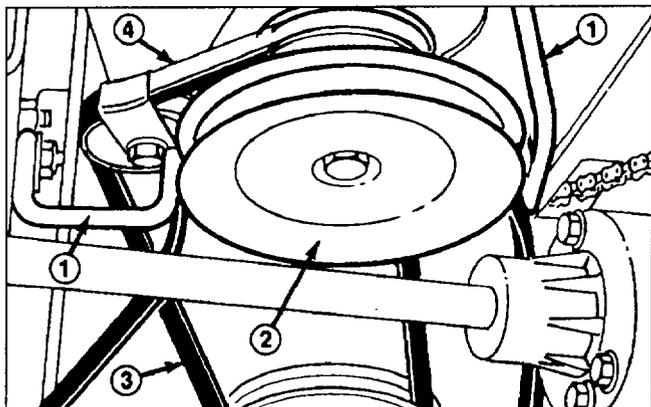

Figure 24
2. Set height-of-cut control to lowest setting and loosen belt guides near engine pulley. Remove belt from engine pulley (Fig. 24).
3. Remove cotter pin from Adjustment Rod and pull from Pivot Tube Arm (Fig. 24).
4. Remove cotterpins from clevis pins on front hanger brackets. Hold front of cutting unit in place with one hand, to prevent falling, and remove clevis pins to lower cutting unit to ground. Pull rear hanger brackets off pins on rear suspension arms. Set height-of-cut control to highest position and slide cutting unit from under Rider (Fig. 24).
4. Replace belt guides for transmission pulley and re-tighten belt guides on engine pulley. Install belt retainer on idler pulley positioned toward rear as shown (Fig. 24).